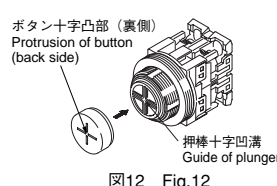

図12 Fig.12
- 取付けは、押棒上の十字凹溝にボタン側の十字凸部を合わせ、ボタンを圧入して取付けてください。(図12)
- Make sure that the guide on the plunger and the color button are in alignment, and push the color button until a snap fit in position results. (Fig.12)